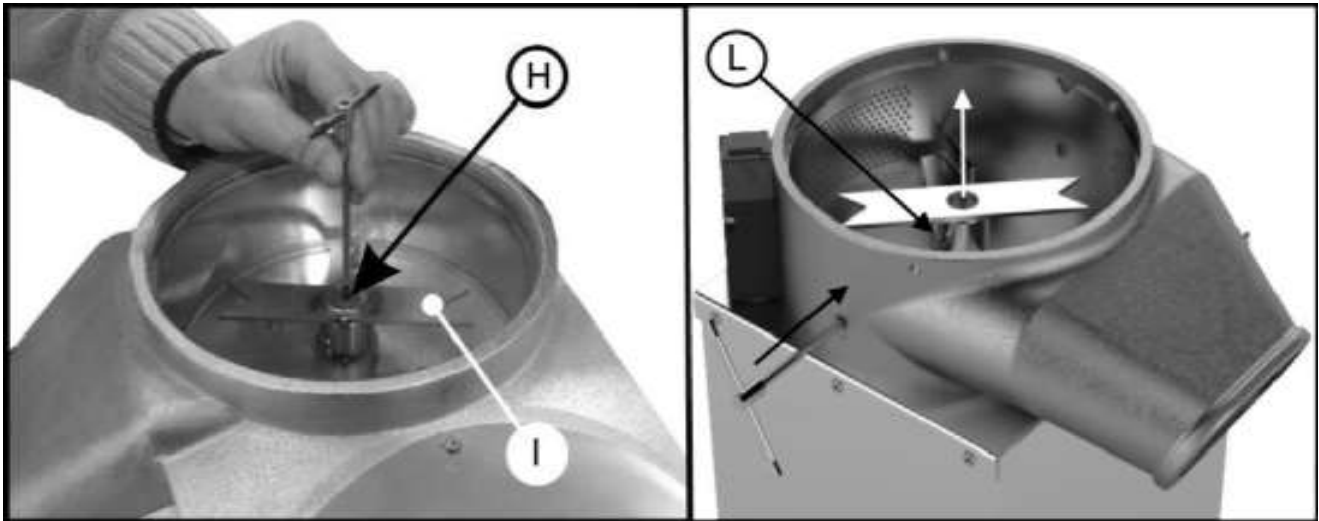

Figure 9
- Unscrew and remove the screw and the corresponding bush ref. H Figure 9
- Unscrew dowel ref. L Figure 9, by inserting the Allen wrench in the sieve blocking hole
- Tighten dowel ref. L Figure 9
- Tighten the screw and the corresponding bush ref. H Figure 9
- Position and fasten the hopper ref. A Figure 9